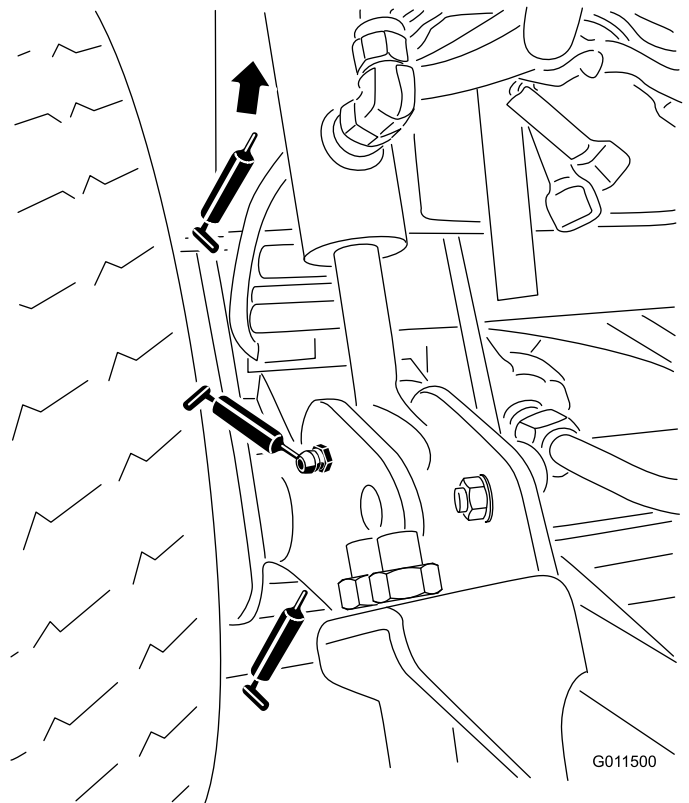

Figure 42
- Lift arm bushings (2) (Figure 42)
- Lift cylinder bushings (4) (Figure 42)